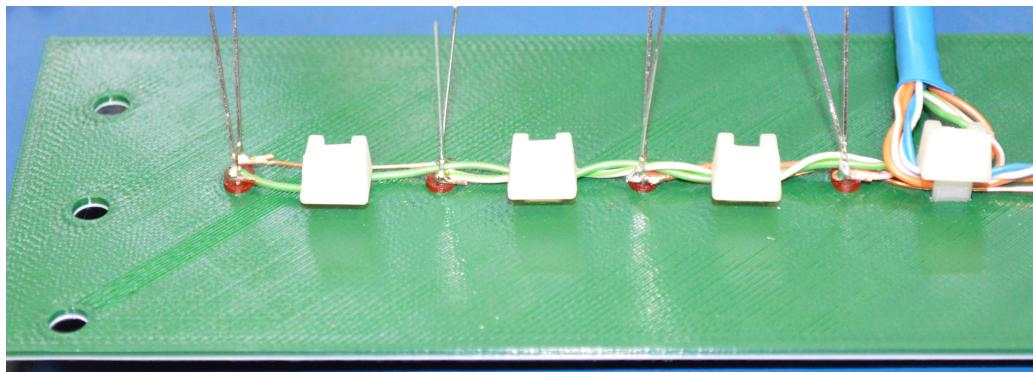

Figure 2.17: Solder the Remaining LEDs on That Side and Add Cable Ties
- Solder the remaining LEDs on that side and add cable ties between them. See Figure 2.17.